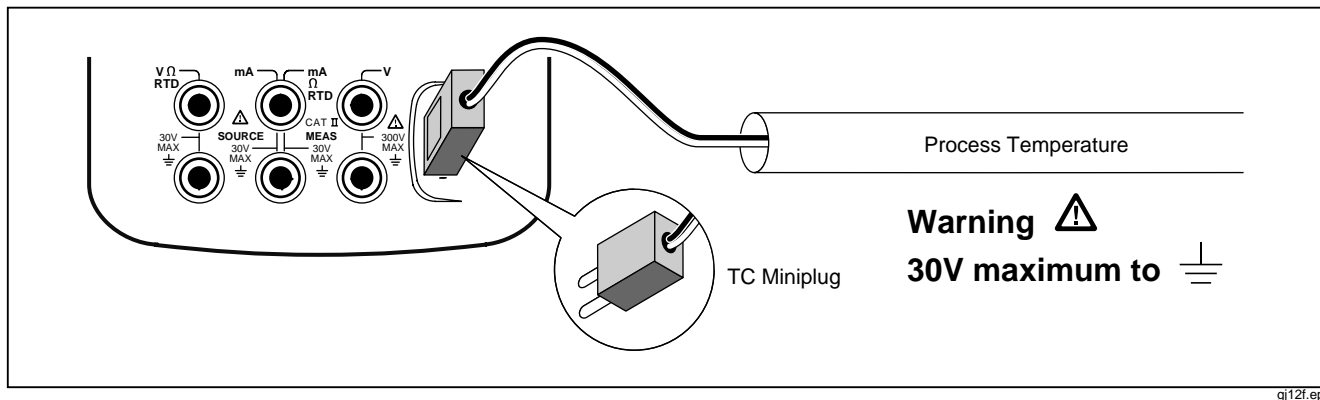

Figure 13. Measuring Temperature with a Thermocouple
1. Attach the thermocouple leads to the appropriate TC miniplug, then to the TC input/output as shown in Figure 13. *One pin is wider than the other. Do not try to force a miniplug in the wrong polarization.*